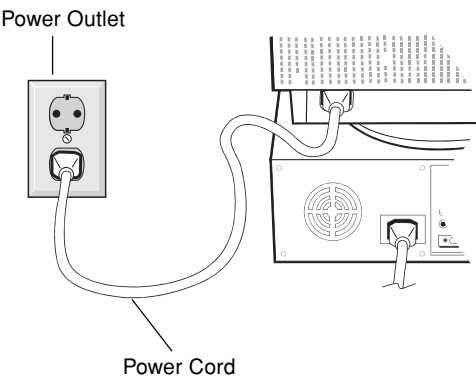

Figure C.1
5. Connect one end of the power cord to the MultiSync FE1250+ monitor and the other end to the power outlet (**Figure C.1**).